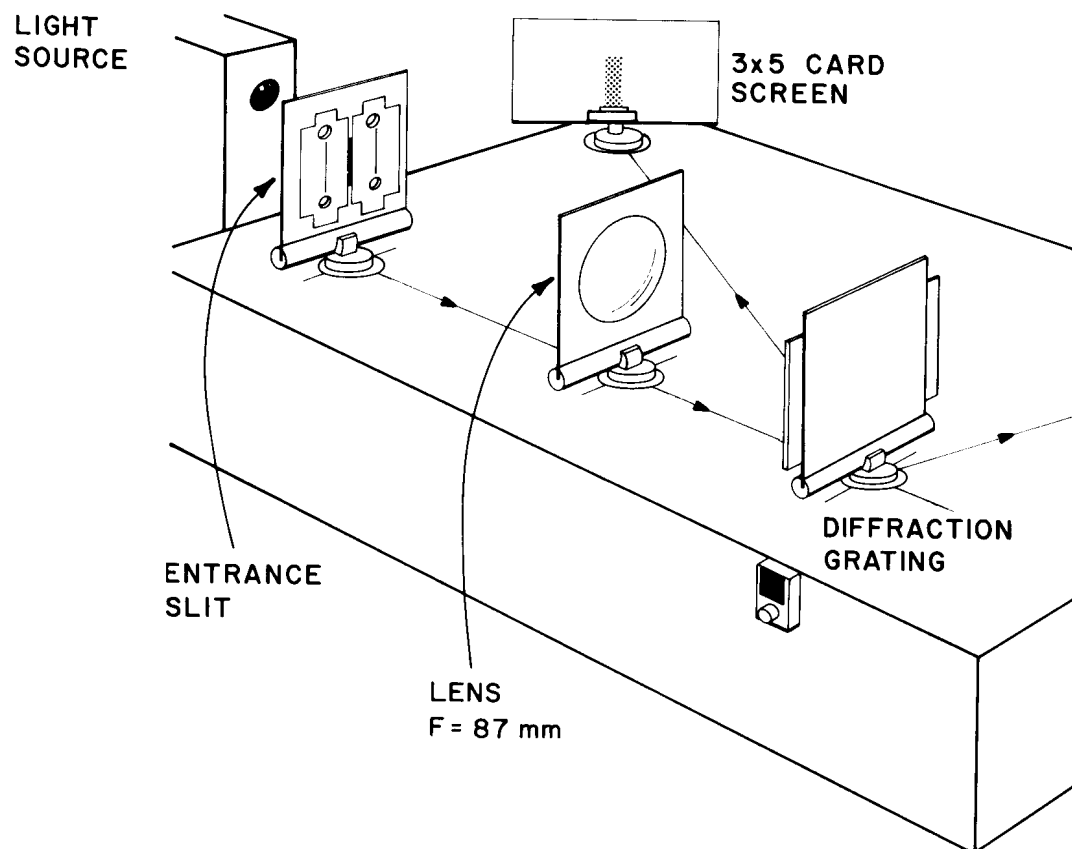

Figure 7. A spectrophotometer using only a slit, lens, and grating. It spreads the light from the source into a spectrum on a 3 X 5 index card.
2. Place the components on the base as shown in Figure 7 and the plan below. When you do this, you should see the colors of the rainbow in a spectrum on the white 3 X 5 index card. You may have to make some adjustments to make it work best. This procedure is called *alignment*.